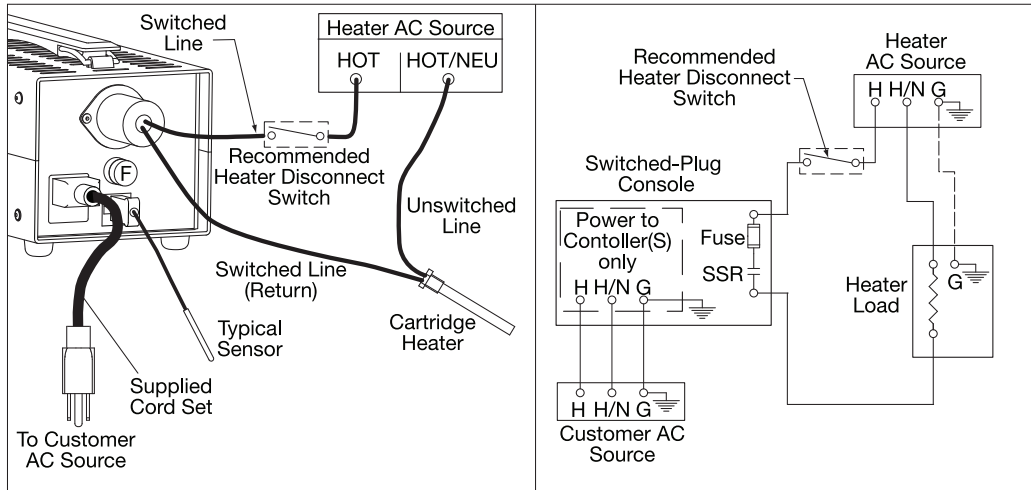

Figure 1. Application Wiring Example (one-zone shown)
2. Power for your heater(s) is NOT sourced directly through the console line cord. Refer to **Figure 1. Application Wiring Example** on the next page. The heater(s) must be wired to their own independent power circuit by a qualified electrician. **Do not use the pin marked “W”. This is not a grounding pin.**